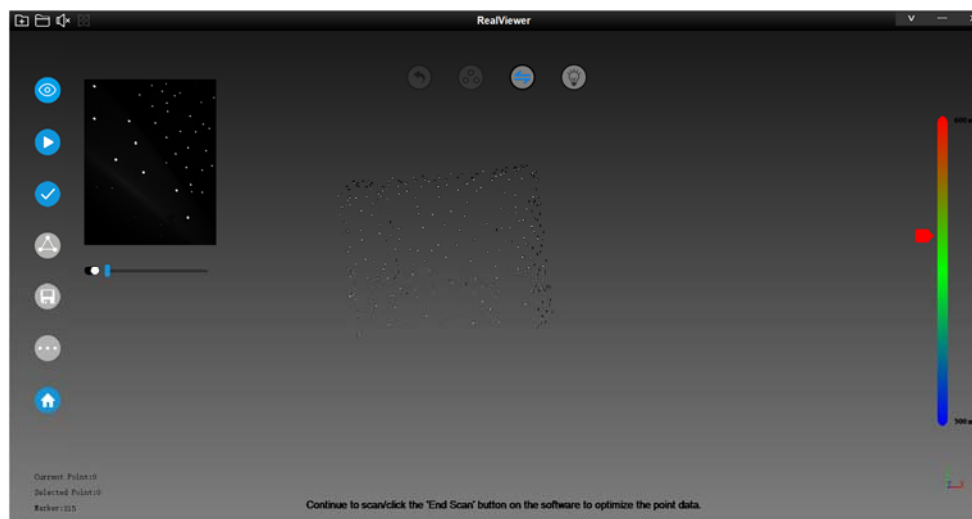

Figure6- 3 Marker scanning completed
(1) Click pre-scan, we can grasp the optimal distance for scanning and the brightness of the camera. Click the button on the scanner to pause the pre-scan.
(2) When scanning is started, the software scans the markers by default. After the scanning is completed, click "End Scan" to complete the scanning of the markers (Figure6- 3).